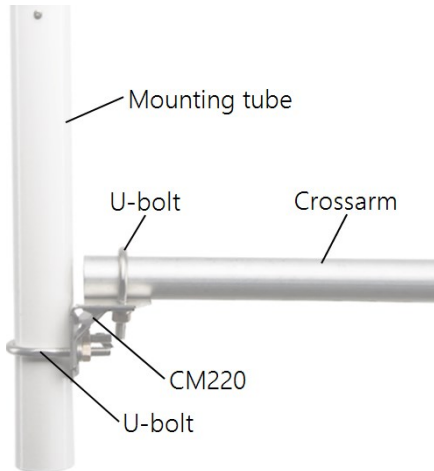

Figure 6-1. ClimaVue50, MetSENS, or WindSonic Mounting Pipe Kit and crossarm
1. If using a crossarm, attach the mounting tube to the crossarm by using the CM220 Right Angle Mounting Kit, then mount the crossarm to the tripod or tower (Figure 6-1 [p. 11]).